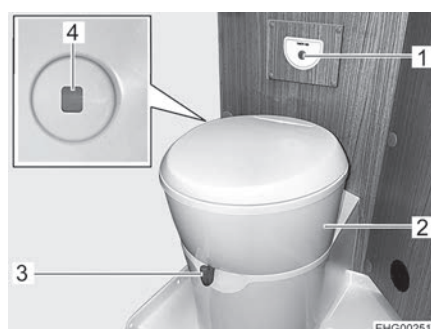

Fig. 123 Toilet
The toilet bowl can be rotated into the required position. In order to do this, grab the toilet's upper part (Fig. 123,2) with both hands and rotate it.
The operating unit with the flush button (Fig. 123,1) is installed near to the toilet bowl.
- Before flushing open the sliding trap of the toilet. To do this, push the slide lever (Fig. 123,3) in an anticlockwise direction.
- For flushing, press the blue flush button (Fig. 123,1).
The colour of the level indicator (Fig. 123,4) changes from green to red whenever the sewage tank has to be emptied.